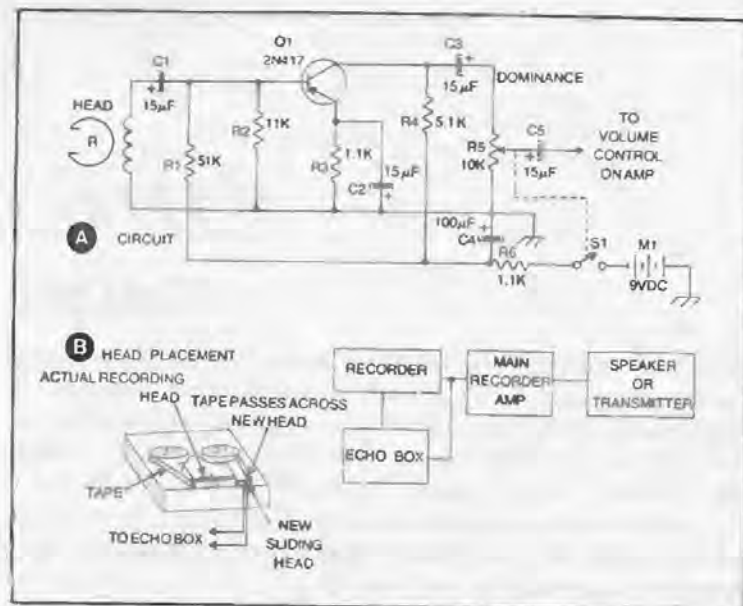

Fig. 27. Echo box.
Ever wish you had a professional echo chamber similar to those used by disk jockeys? All you need is a tape recorder, an expensive replacement tape head, a 2N417 transistor, and handful of components. Construct the circuit carefully, and you will sound like you are in Grand Canyon. Figure 27 (C) shows how the echo box is hooked into your audio or transmitting system; the pictorial (B) shows how the echo effect is obtained through installation of a new recording head. Also, see Table 27.